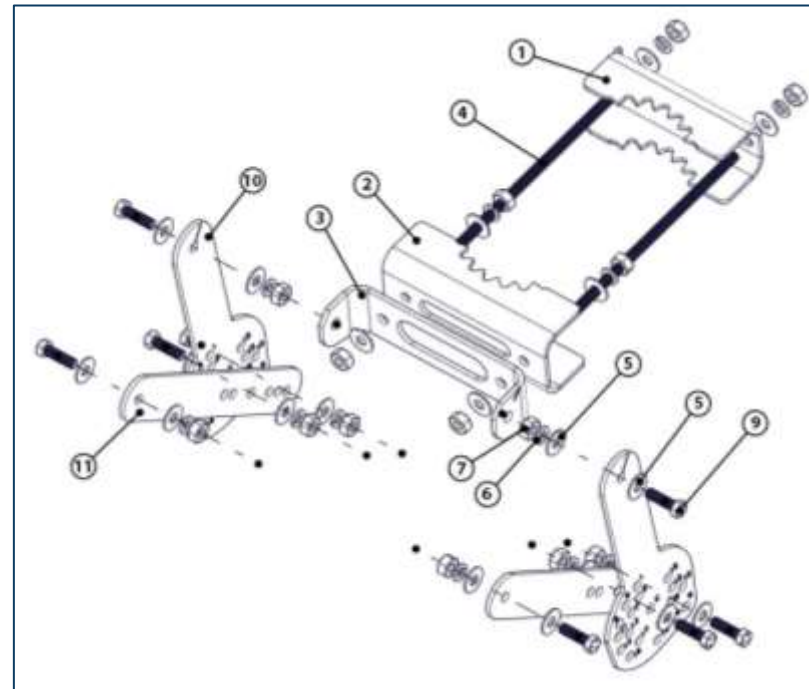

Figure 2: Top mount
3. Install top mount pieces—back grip bracket 1, anti-rotation bracket 2, single mount adapter 3, antenna linkage arm 11, and tilt select arm 10 onto antenna as shown in *Figure 2* using threaded rods 4 and the following 3/8" hardware: 5, 6, 7, and 9.